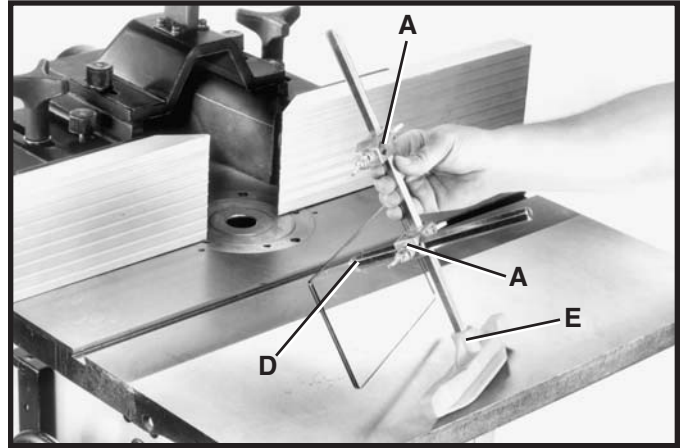

Fig. 25
2. Assemble two guard brackets (A) Fig. 25, and clear plastic guard (D) to holddown (E) as shown.